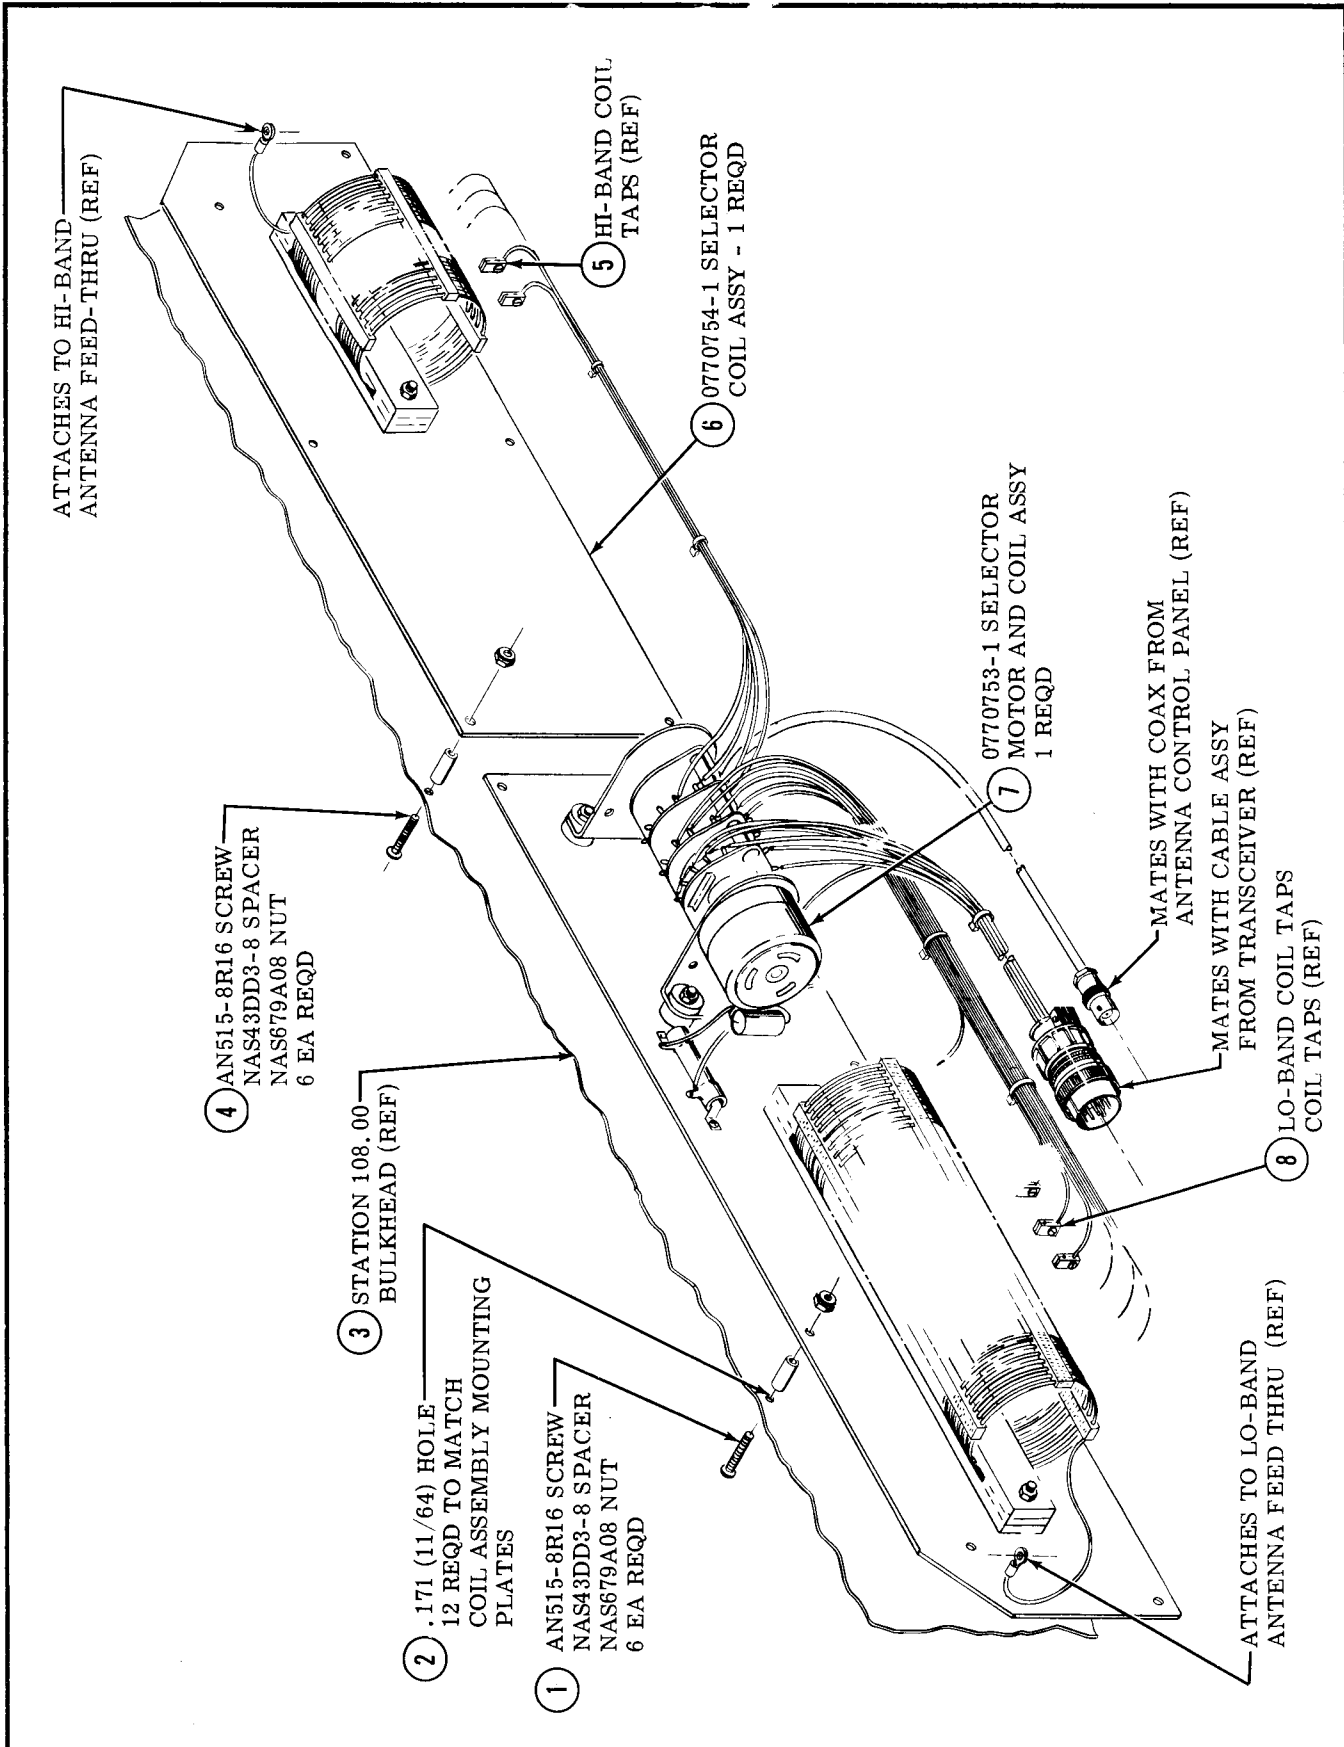
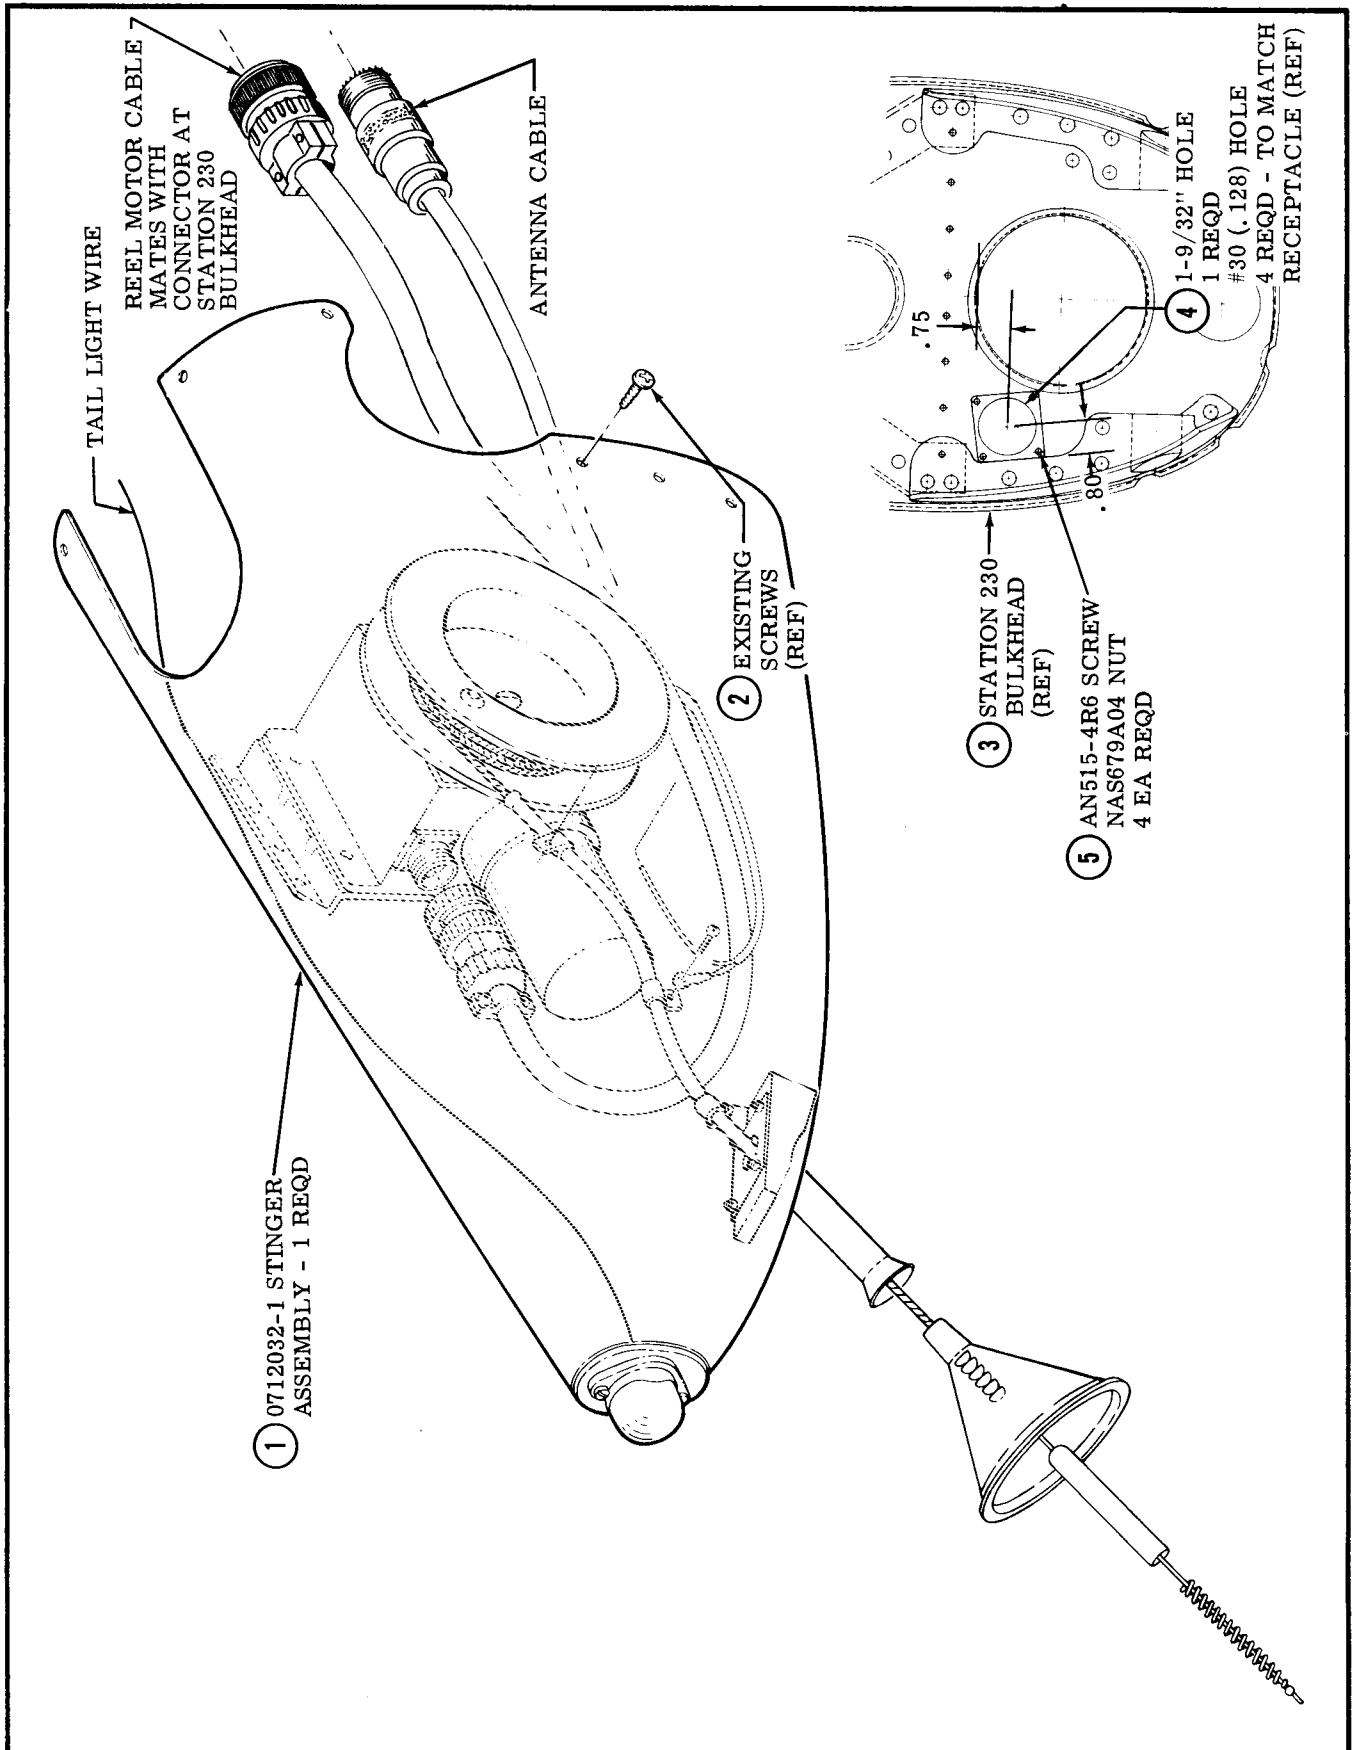

Figure 8. Fixed Antennas Load Coils Installation
Figure 9. Trailing Wire Antenna Installation
- (7) Attach bracket (3) as shown with screw just removed.
- (8) Attach wire assembly from step 3 to the left hand insulator installed in step 4.
- (9) Thread wire through insulator on the end of assembly fabricated in step 5 and hook clip (10) in lower hole (15) on vertical fin.
- (10) Install insulator (5) on end of wire and attach a length of wire long enough to extend the antenna to the wing tip anchor point.
- (11) Attach antenna to bracket (3) using thimble (4) to protect wire. Apply sufficient tension to the wire to compress the spring (14) by 1 inch.
- (12) Make a second insulator and spring assembly as described in step 5.
- (13) Make a second antenna wire as described in step 3 using remaining length of wire.
- (14) Attach wire to the right hand insulator installed in step 4.
- (15) Hook insulator and spring assembly into the upper hole in vertical fin.
- (16) Thread wire through insulator (13) and tighten sufficiently to compress spring by 1 inch. Wrap wire around itself and cut off excess.
- g. Installation of fixed antenna load coils (Refer to figure 8).
- (1) Drill holes (2) in after face of station 108.00 bulkhead to match selector coil assemblies (6 and 7).
- (2) Install selector coil assemblies with screws, spacers and nuts (1 and 4).
- (3) Attach terminals on ends of load coils to adjacent feed-through insulators for fixed antennas.
- (4) Attach cable assemblies from load coil assembly (7) to mating cables from transceiver and antenna control panel.
- (5) Secure cable assemblies to bulkhead to prevent chafing of wires or strain on connections at the coil assembly.
- h. Installation of trailing wire antenna (Refer to figure 9).
- (1) Remove and discard existing tailcone stinger from aircraft. Retain screws for later reuse.
- (2) Route cable assembly and coax from antenna control panel back to station 230 bulkhead with tail light wiring.
- (3) Cut holes (4) in station 230 bulkhead as shown.